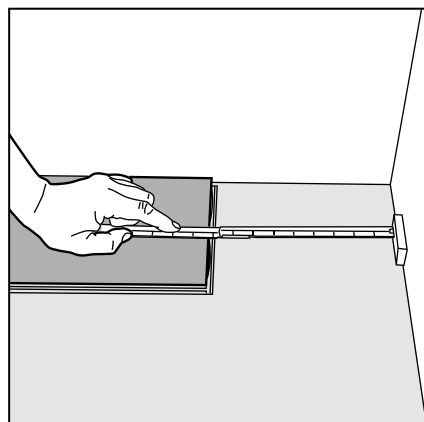

Figure 14 Last plank, first row
- > Measure the length of this panel to fit (Fig 14), cut to correct length (minimum length 350mm).